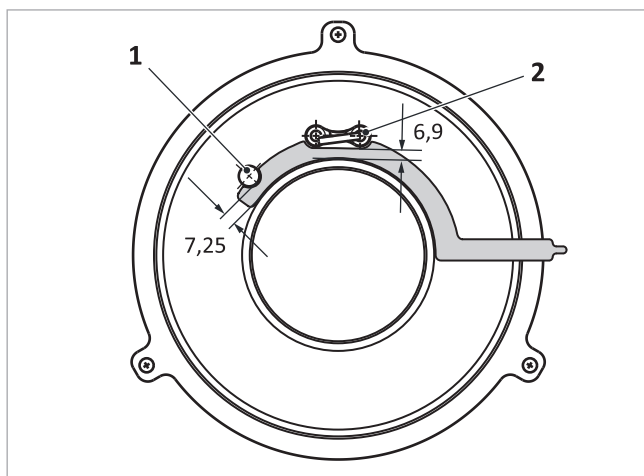

Fig. 142: Clearance from ionisation electrode and ignition electrode to burner tile
- Ionisation electrode → fig. 142 (1): 7.25 mm
- Ignition electrode → fig. 142 (2): 6.9 mm